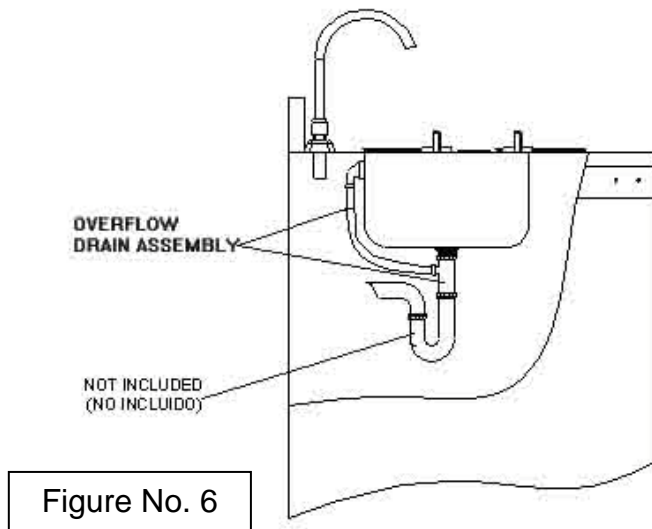

Figure No. 6
- Connect the waste tee with overflow adapter to the waste drain hose and secure drain hose to the waste tee and overflow adapter with clamps. The connection must be performed by a professional licensed plumber and comply with all Local Codes and Ordinances. See Figure No. 6.